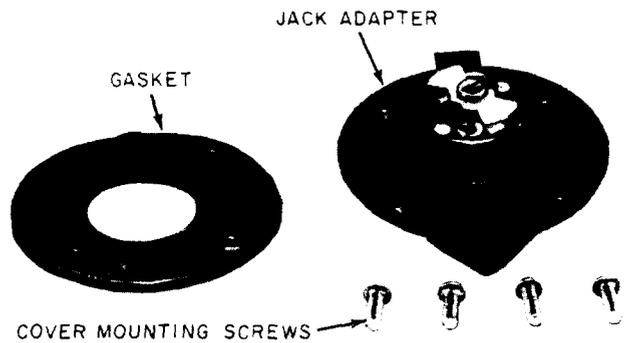

Fig. 1—B Weatherproof Female Jack Adapter
- (a) Adapter, Jack, Female, Weatherproof, B (for use with existing KS-8421 jack housing on docks, Fig. 1 and 2).
2.03 The B weatherproof female jack adapter (Fig. 1 and 2) is mounted on an existing KS-8421 jack housing after the old jack and front plate are removed. It will receive the male plug of the B weatherproof cord to provide service to recreational vehicles or boats. A spring-loaded hinged cover protects the jack from weather when not in use. A rubber boot on the mating connector of the cord provides a weatherproof seal when in use. Three screw terminals stamped T, R, and GR are provided for connection to tip, ring, and ground, respectively. Four mounting screws and a cover gasket are provided.
Note: If existing KS-8421 jack housing at utility pad is to be used, one B weatherproof female jack adapter (Fig. 1) is required instead of the B female jack, and only one B outlet box is required.
Note: If existing KS-8421 jack housing at dock is to be used, one B weatherproof female jack adapter (Fig. 1 and 2) is required instead of the B weatherproof female jack and the B outlet box is not required.